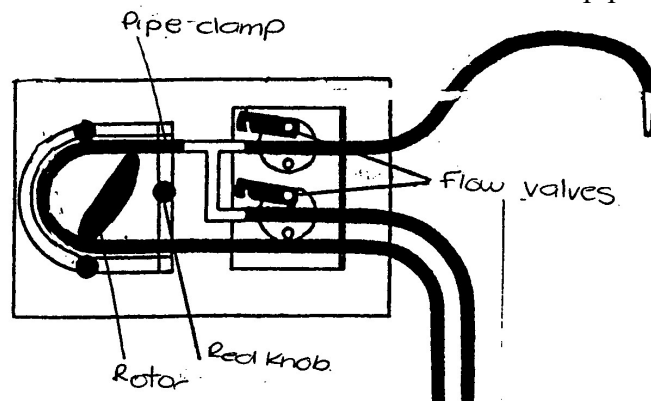

Figure 2
5.2.2.1.1 Loosen the red knob and lift off pipe clamp. Refer figure 2.